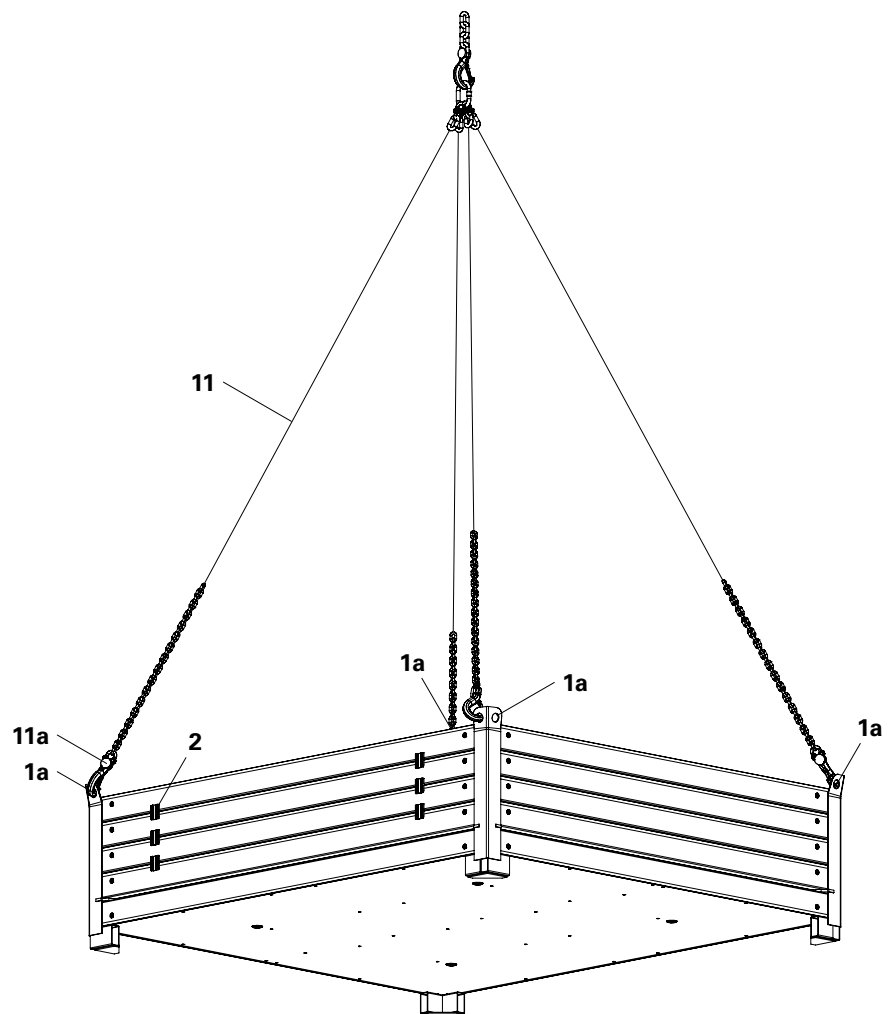

Fig. A1.04
→ Four load-bearing points (Fig. A1.04)
Unload the stacks using the crane with the help of the Lifting Gear Combi (11) or 4-sling lifting gear. (Fig. A1.04)